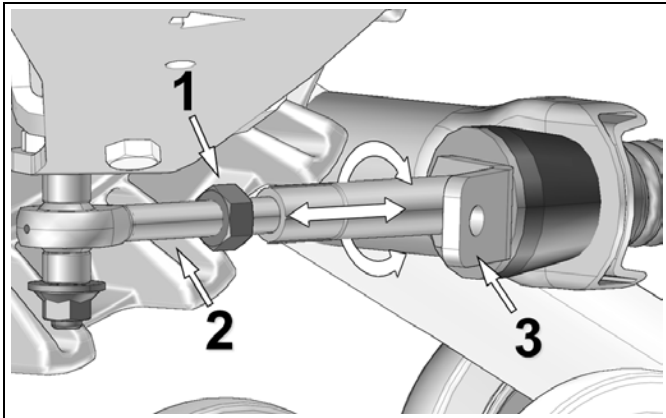

Figure 5
- Loosen jam nut (1). Adjust length of rod end (2) by rotating the steering limiter support plate on (3) the stabilizing arm. Use a 30 mm [1 3/16 in] wrench to rotate support plate and obtain **254 mm [10 in]** above the ground. Refer to Figure 5.